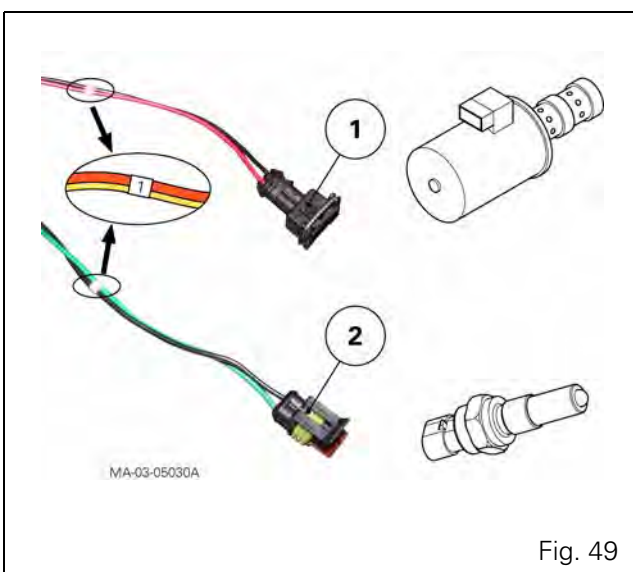

Fig. 49
- Connect the connectors (1) to the solenoid valves and the connectors (2) to the range switches (Fig. 49). Each wire is marked with a number indicating the range concerned (see the following table).